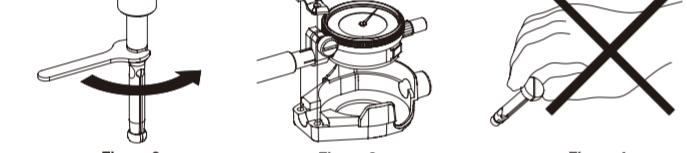

Figure 2 Figure 3 Figure 4
- Insert the measuring pin into the contact point and screw the contact point to the main unit of the bore gage. Tightly screw the contact point by using the wrench. (Figure 2)
- Tighten the screw to the contact point by using the wrench. (Figure 2)